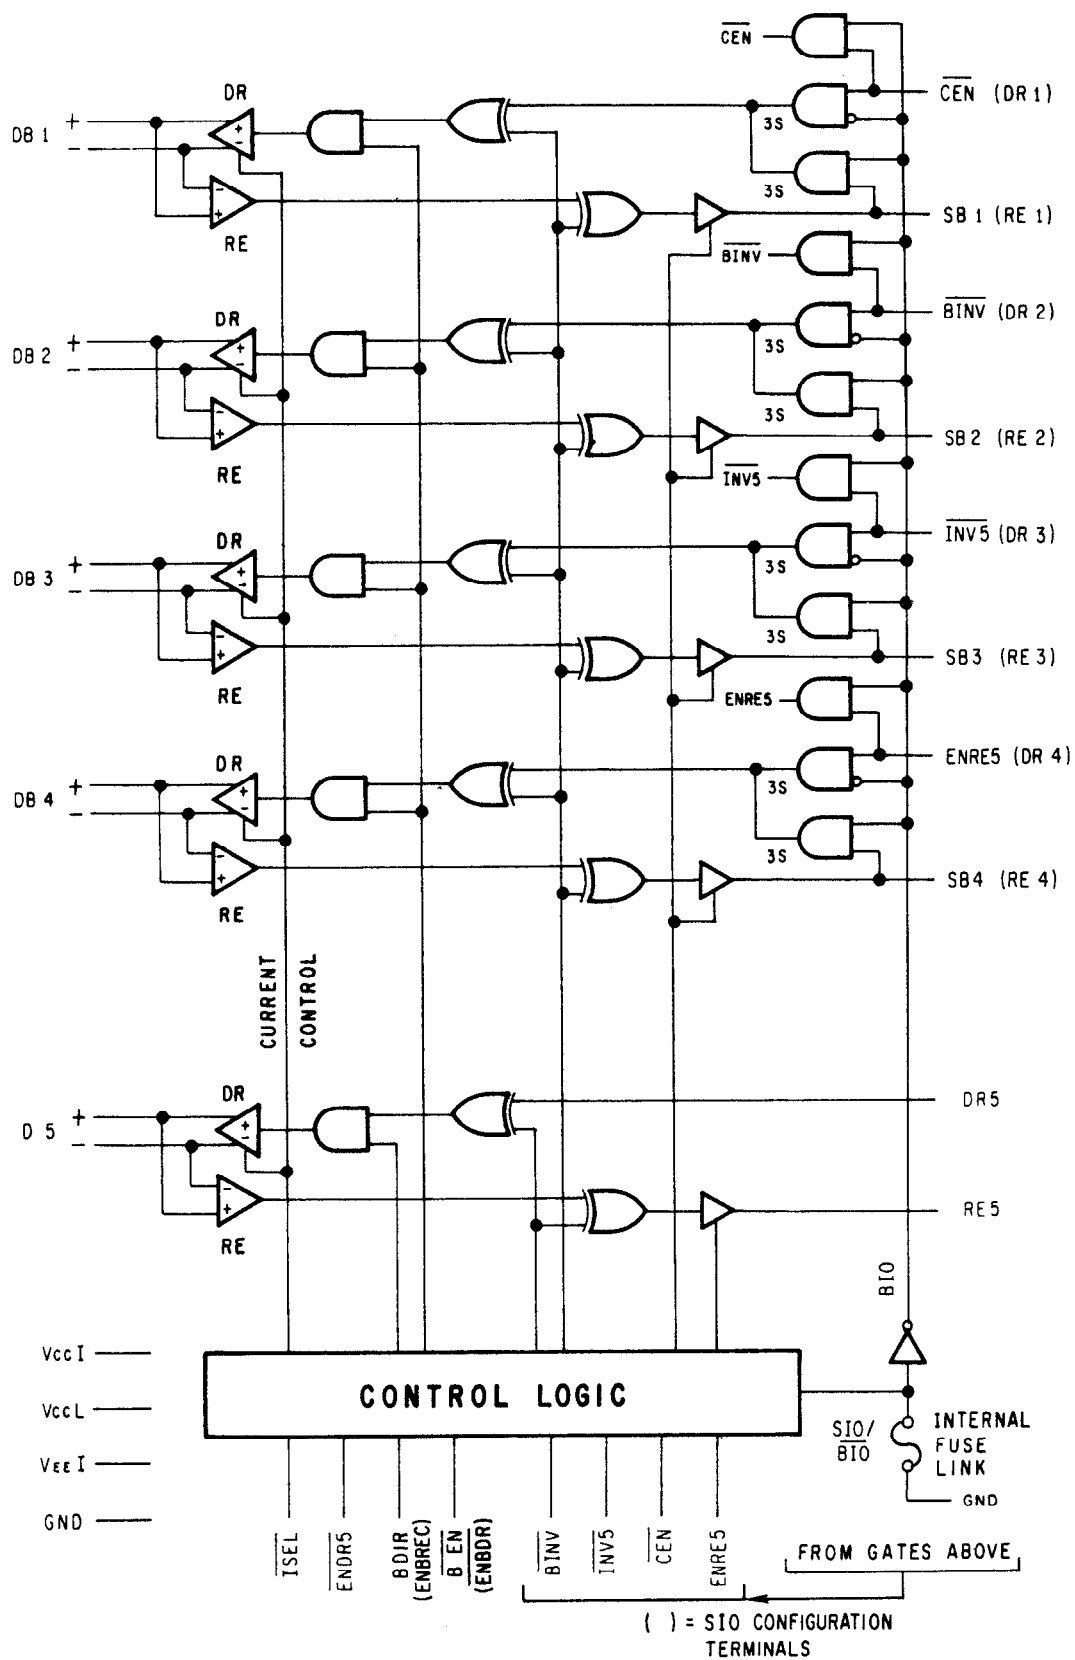

FIG. 2C — CSX/FPIO GATE PROGRAMMABLE TRANSCEIVER
- Figure 2C - CSX/FPIO Gate Programmable Transceiver.